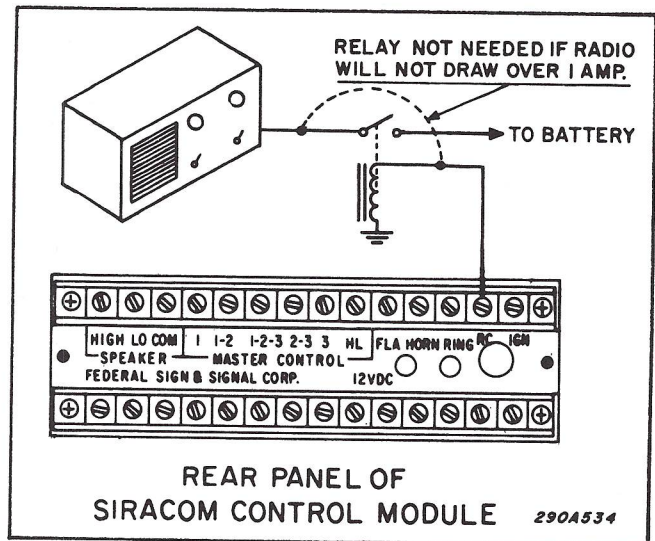

Figure 3-7. Radio Control Connections.
Proper connection of the radio control circuitry will allow power to be supplied to the two-way radio whenever the vehicle's ignition is "on", or when the SELECTOR switch is set to RADIO (radio re-broadcast mode). Proceed as follows (see figure 3-7).
B. If the vehicle's two-way radio is not controlled by a relay and it draws over one-ampere, as verified by the radio's service manual, a 12-volt relay should be installed. Use the RC terminal to control the 12-volt relay (the other relay coil terminal should be ground), which will control the radio (see figure 3-7).